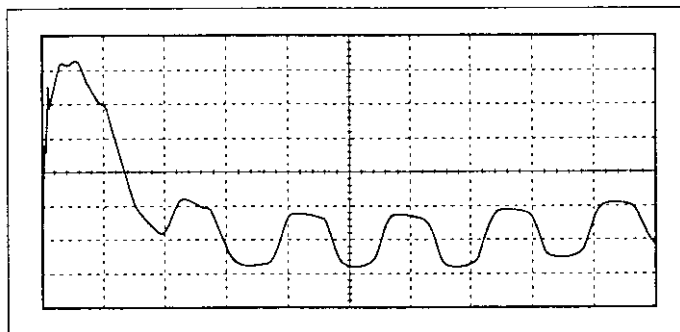

Figure 3. FM detector.
- With the test point switch on the selector box set to **TP11** and RXEN switch set to **pulse** check that the signal is as in figure 3. Amplitude 75 to 125 mVp-p.